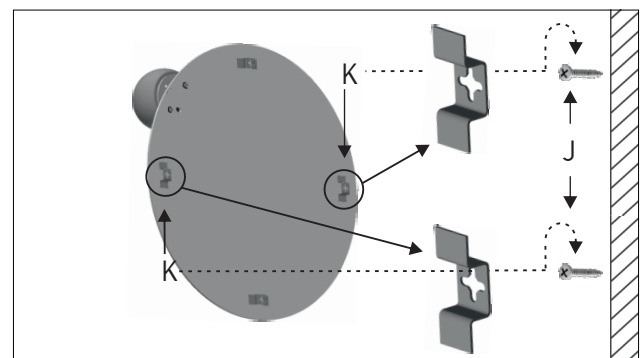

Figure 5
5 - Introduce the screws (J) into the holes of the supports (K) and leave the mirror hung from the horizontal slots. Figure 5.